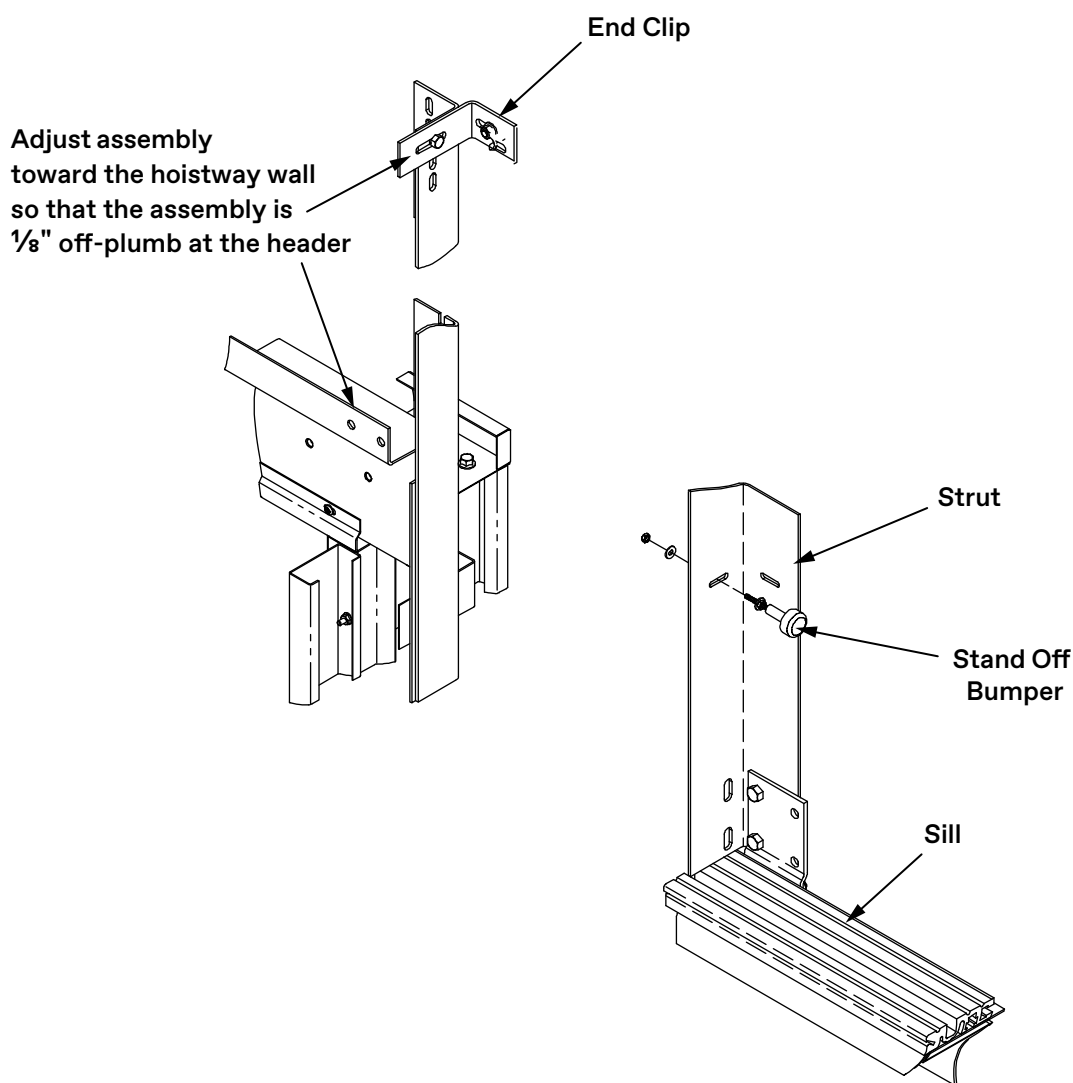

Figure 8 - Adjust Frame Assembly
1. At the end clips, adjust the strut/header/frame assembly toward the hoistway wall so that the assembly is $\frac{1}{8}$ " off-plumb at the header. This action allows the clutch to clear the fascia. See Figure 8.